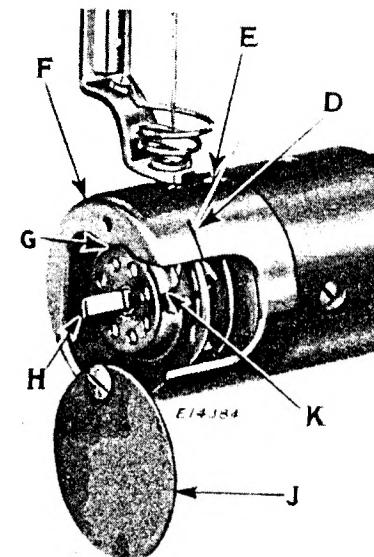
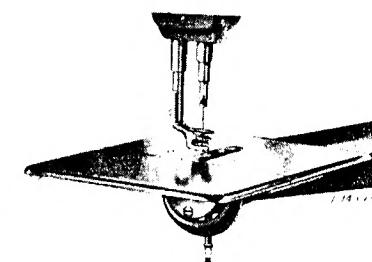
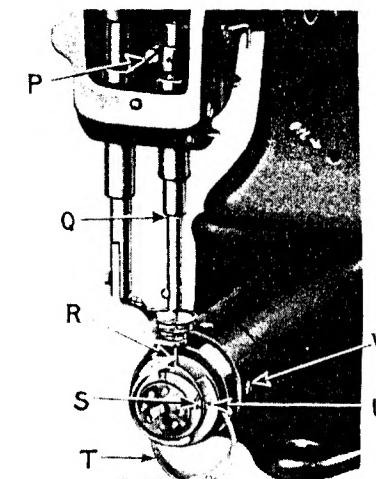
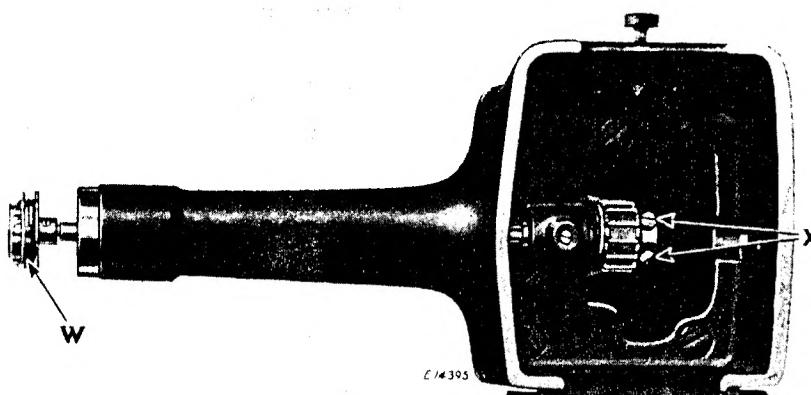

Fig. 6. Threading Bobbin Case
Fig. 14. Work Plate Attached to Machine
Fig. 17. Needle Bar and Hook Adjustments
Fig. 18. Removing the Hook
Open the cylinder end cover cap (J, Fig. 6) by pressing down with the thumb nail inserted in the slot. Open the in case latch (H, Fig. 6) and remove the bobbin.
guide it into the notch (K, Fig. 6), then close the latch (H); draw the thread up to the top of the slot (D, Fig. 6) and close the cap (J).
The tension on the under thread is regulated by the screw (S, Fig. 17) in the center of the tension spring on the outside of the
Draw toward you the cylinder end cover cap (J, Fig. 6) and slide the yoke of the work plate over the cylinder end, then tighten the thumb screw enough to hold the work plate as shown in Fig. 14.
TO SET THE NEEDLE BAR IN CORRECT TIME. Loosen the needle bar connecting stud pinch screw (P, Fig.17) and place the needle bar in the proper position as directed above, then retighten the screw.
TO SET A NEEDLE BAR WHICH HAS NO MARK. Set the needle bar so that when it rises 3/32 inch from its lowest position and the point of the hook is at the center of the needle (see R, Fig.17), the eye of the needle will be about 1/16 inch below the hook point.
Take out the screw (E, Fig.6) and remove the cylinder end cover (F, Fig.6). Turn the balance wheel toward you until the lower mark (Q, Fig.17) across the needle bar, as it is going up, is just visible at the end of the bushing; now, if the needle bar and hook are in correct time the point of the hook will be at the center of the needle and about 1/16 inch above its eye (see R, Fig.17).
Loosen the screws (X, Fig.18) in the hook shaft connection belt pulley and turn the balance wheel toward you until the needle bar goes to its lowest position and upward until the lower mark (Q, Fig.17) across the needle bar is just visible at the end of the bushing, then stop turning and hold the wheel firmly; with the left hand, turn the hook until the point (R, Fig.17) is at the center of the needle — $1/16$ inch above its eye — see that the end play to the shaft is almost eliminated, then retighten the pulley screws (X).
Loosen the screws (X, Fig.18), remove the screw (E, Fig.6) and the cylinder end cover (F), and draw out the hook and shaft (W, Fig.18).
Loosen the set screws (X, Fig.18) and the set screw (V, Fig.17) that holds the bushing, and carefully drive the bushing to the right to set the hook closer to the needle, or to the left to set it farther from the needle. After carefully adjusting and timing the hook to the needle, tighten the screws (V, Fig.17 and X, Fig.18). Leave the least amount of end play possible to the shaft, for lubricating purposes.
To remove the bobbin case from the sewing hook to thoroughly clean the bobbin case, remove the screw (U, Fig.17) and open the gib (T); turn the balance wheel until the point of the hook is toward you and remove the bobbin case. See that there is no lint or dirt under the tension spring.
When replacing the bobbin case in the sewing hook, have the position the same as when removing it. Be sure to have the notch at the top of the bobbin case (at G, Fig.6) entered by the stop on the cylinder end cover, then close the gib (T, Fig.17) and securely tighten the screw (U), being careful not to damage the head of the screw.